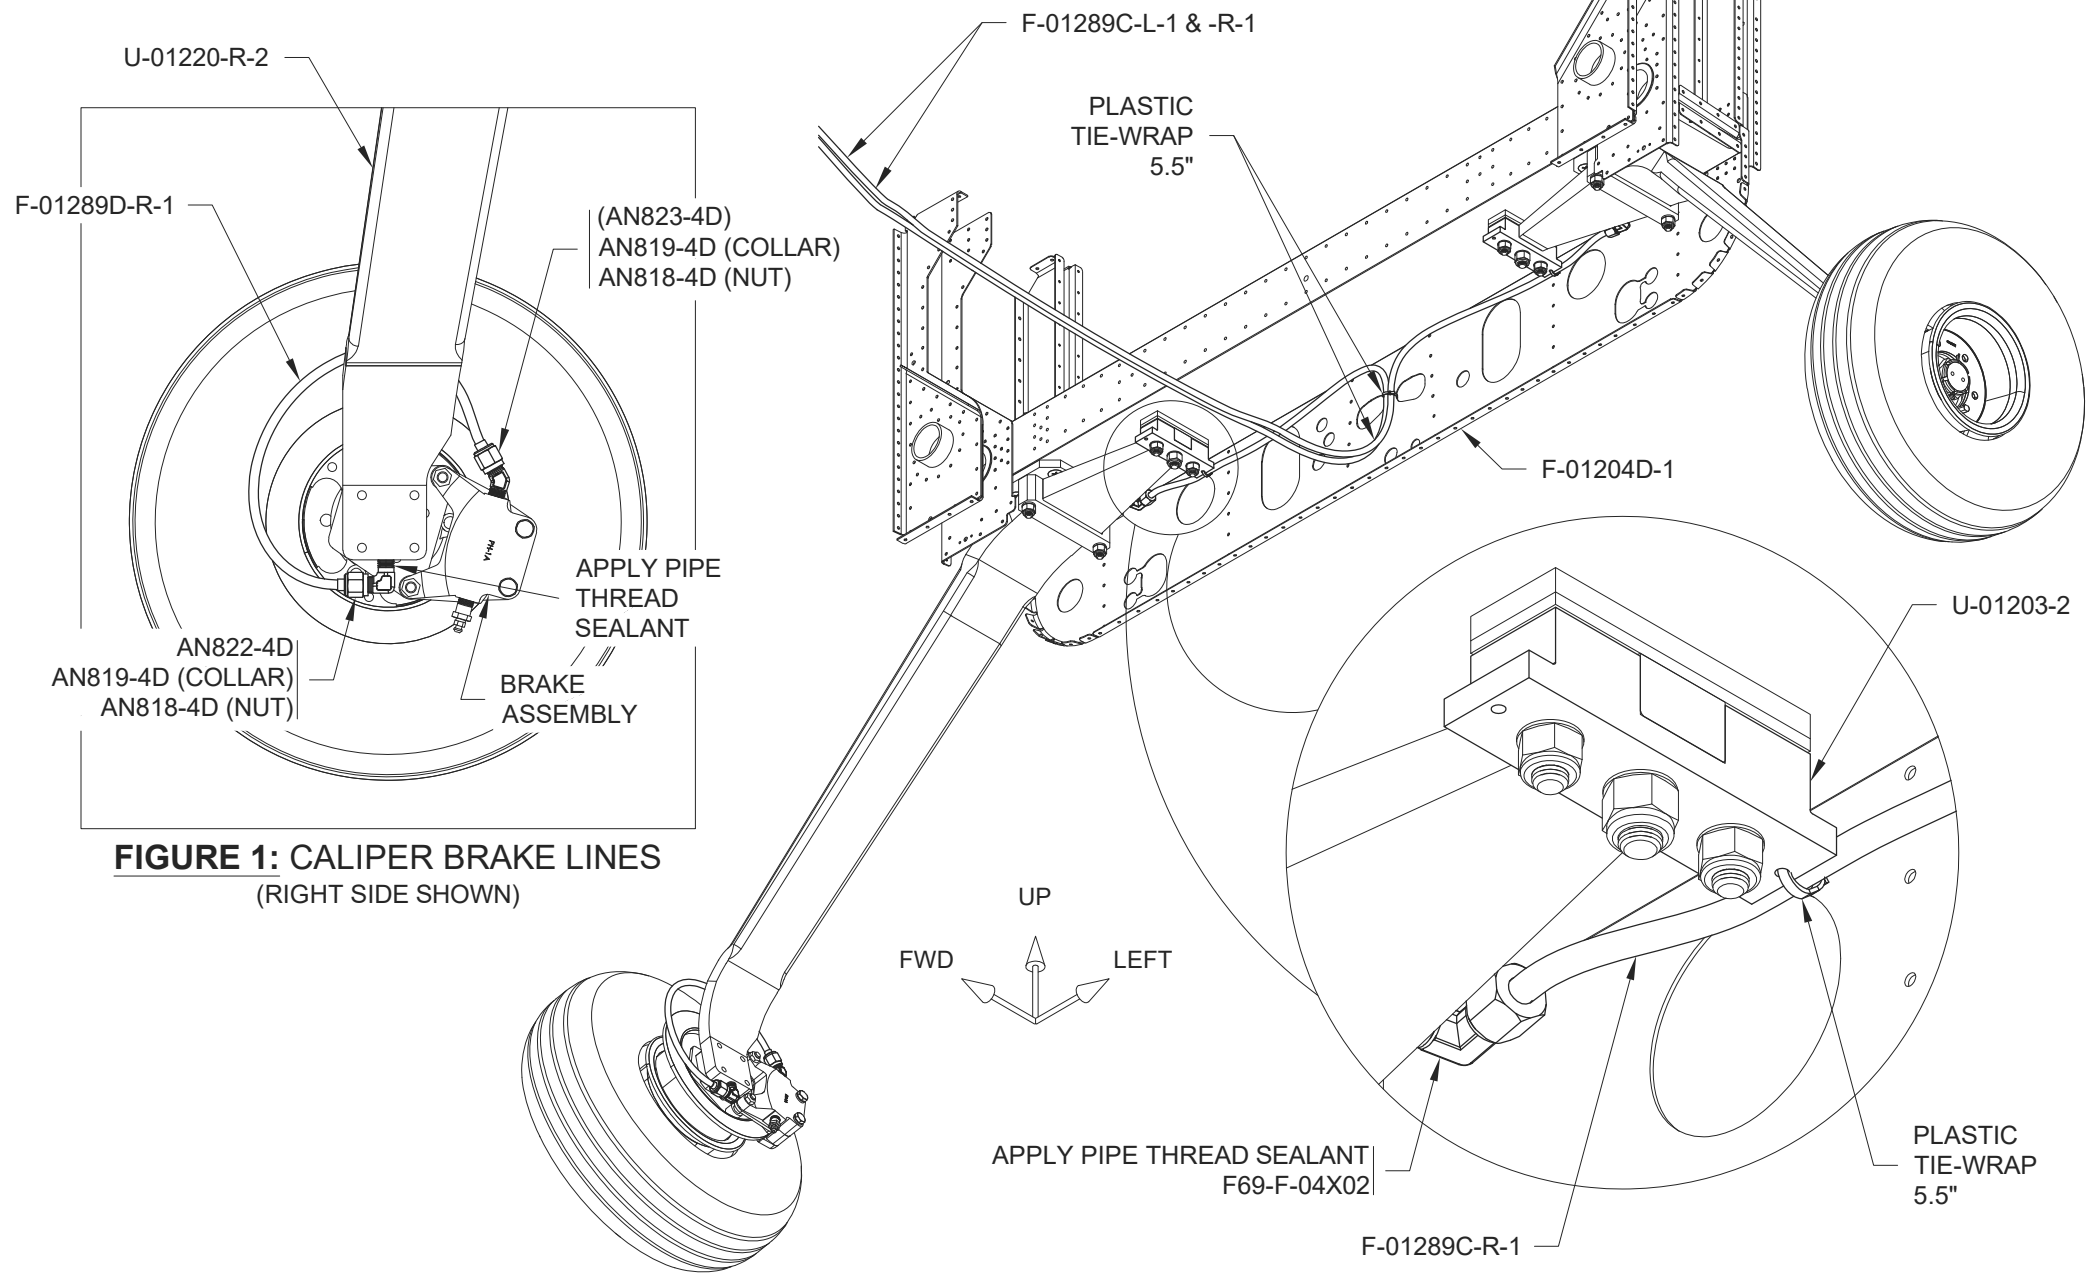

FIGURE 1: CALIPER BRAKE LINES
Step 3: Slip a nut and collar over each end of each F-01289D-L-1 & -R-1. Polish and flare the ends. See Figure 1.
Step 4: Bend, then attach the F-01289D-L-1 & -R-1 to the elbow fittings on the U-01220-L-2 & -R-2 and to the fluid fittings on the brake assemblies as shown in Figure 1. Ensure that the F-01289D-L-1 & -R-1 are clear of the U-01220-L-2 & -R-2.
Step 5: Apply a small amount of pipe thread sealant to the compression fitting (previously attached to the main brake line in Section 28iS/U) shown in the detail view of Figure 1 and install it into the aft port on the U-01220-R-2 Main Landing Gear Leg. Repeat for the left side.